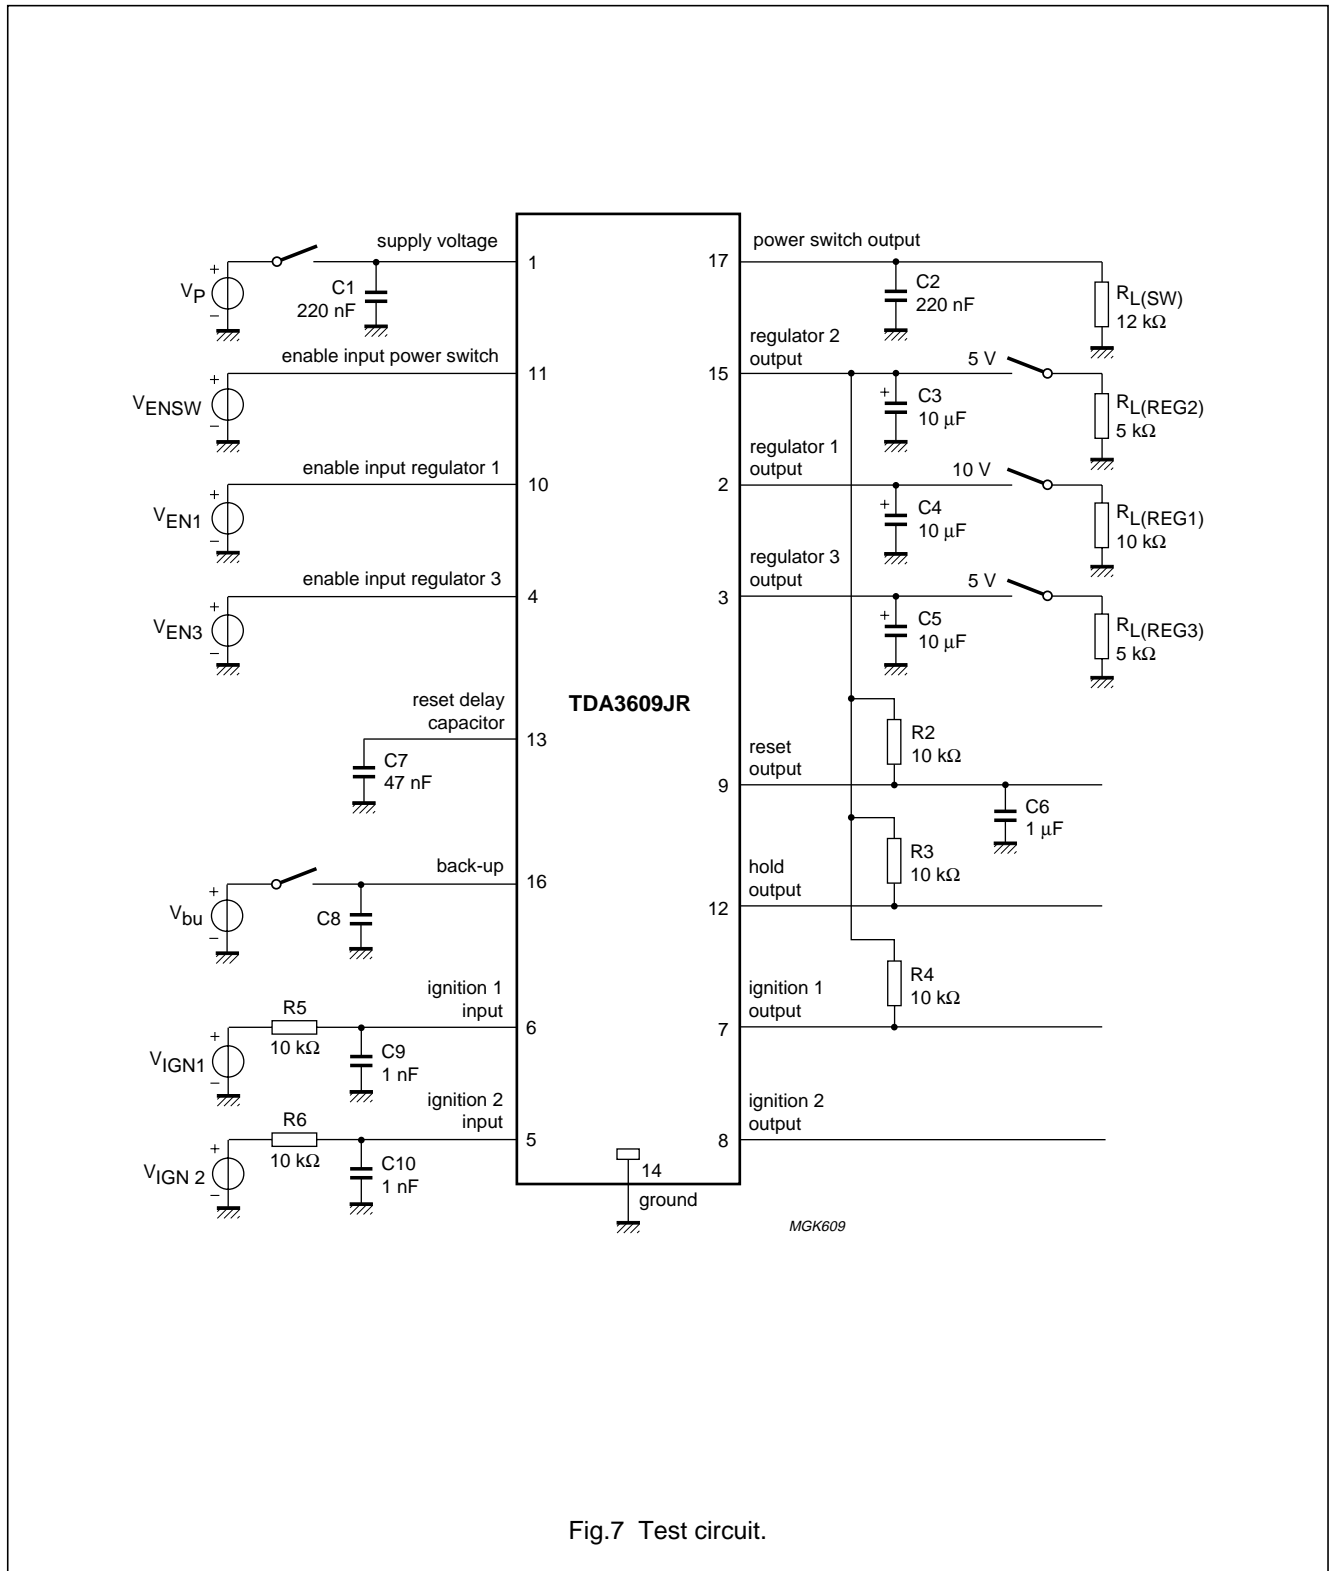

Fig.7 Test circuit.
- The quiescent current is measured in the standby mode. So, the enable inputs of regulator 1, 3 and the power switch are grounded and RL(REG2) = ∞ (see Fig.7).